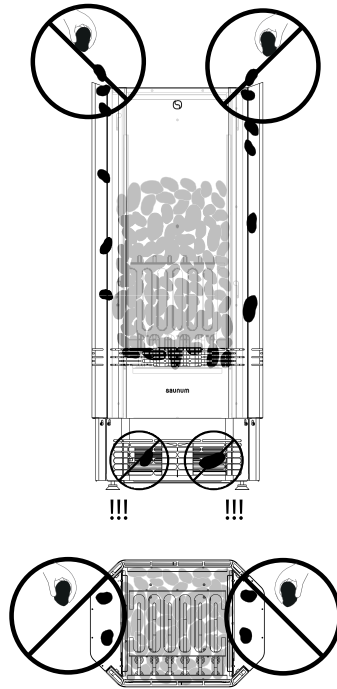

Figure 8
**!** Do not drop any stone inside of the both side flue (Figure 8)!!!